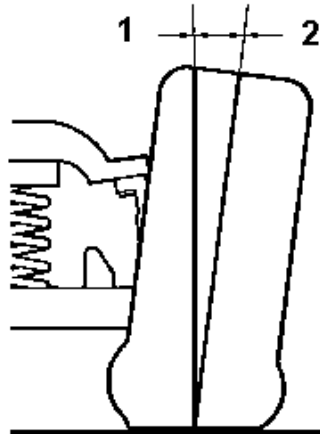

Fig. 10: Identifying Camber (Positive Camber Shown)
- **Negative Camber** - This is when the top of the tire leans in toward the vehicle (1). See Fig. 10.
- **Positive Camber** - This is when the top of the tire leans away from the vehicle (2). See Fig. 10.